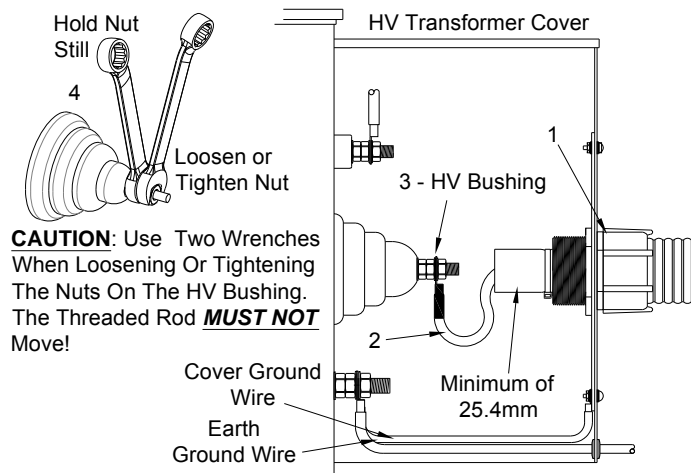

Figure 8
The openings in the Station HV Plenum and Remote HV Transformer Cover must be free of any dirt, paint, or corrosion to ensure good contact with the conduit cord grip (**Figure 8**).
1. Ensure that the insulation tubing around the HV wire extends the minimum 25.4mm (1") from the conduit, but do not shorten the insulation tubing unless it is absolutely necessary (**Figure 8**).